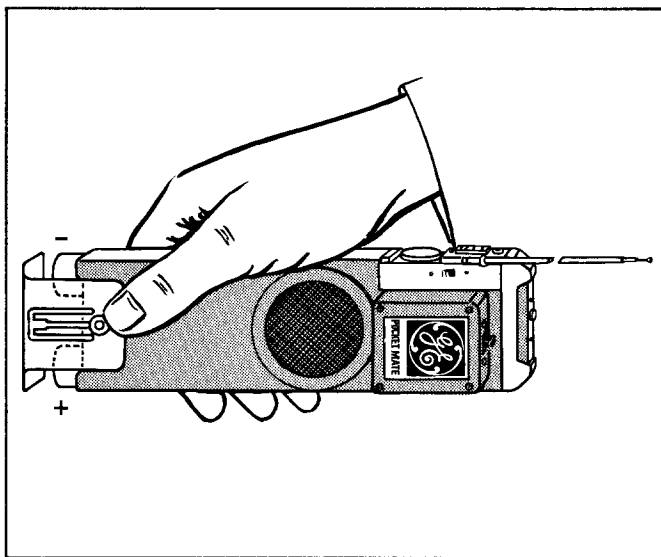

Figure 2 - Changing the Batteries
To Change the Batteries (Fig. 2)
1. Press down on the bottom cover clip spring as shown in Fig. 2 and slide cover out.